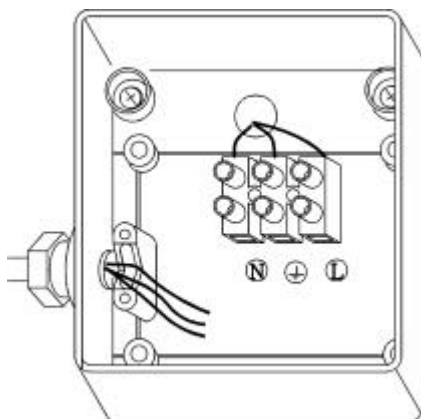

FIGURE 3
(7) Route the power cord through the cable gland and pressure block. (FIGURE 3)